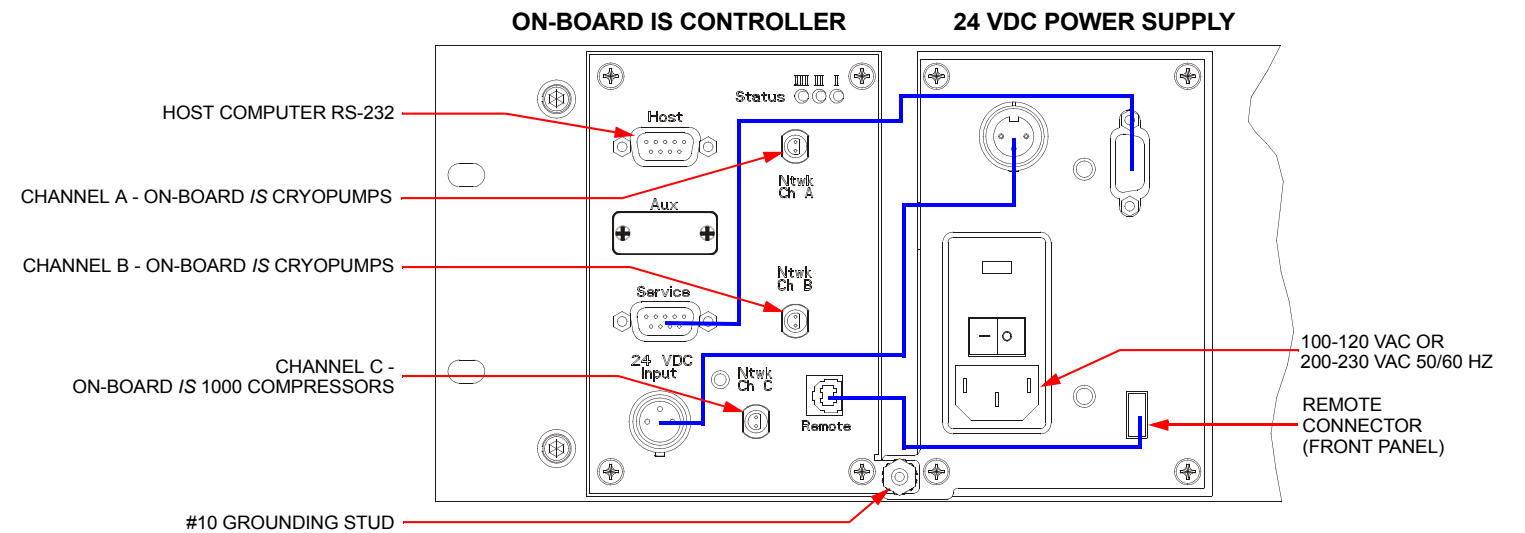
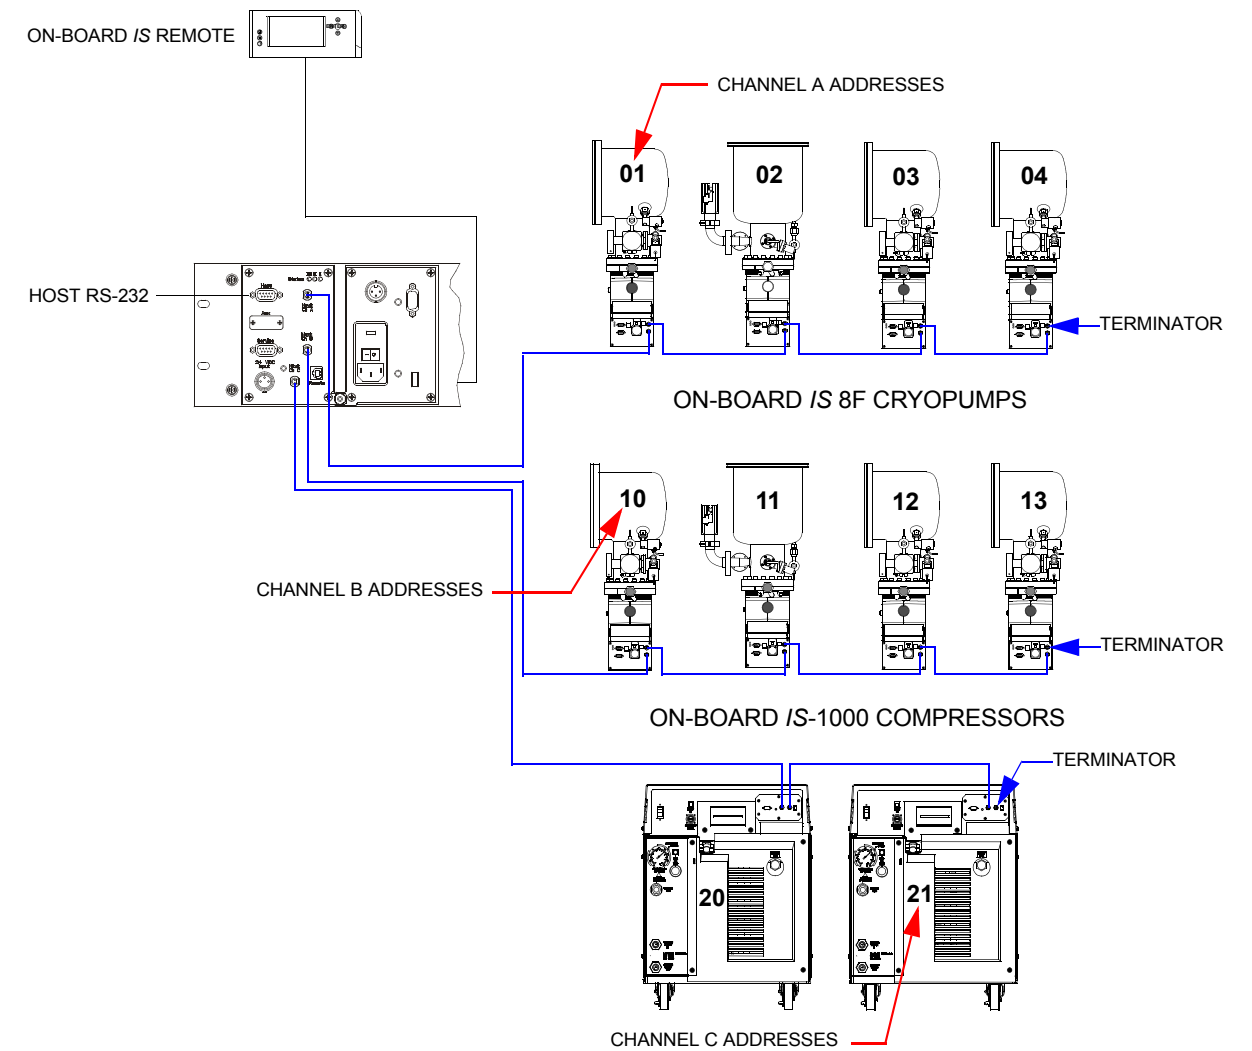

Figure 2: On-Board IS Controller and 24 VDC Power Supply Cable Connections
Figure 3: On-Board IS Cryopump System and Intercomponent Network Connections
2. Use the Remote keypad (part number 8187007K001, see *Figure 2*) to go to the *On-Board IS Controller* screen.
1. Connect the Channel A Network Cables between the On-Board IS Controller and On-Board IS Cryopumps as shown in *Figure 2* and *Figure 3*.
2. Connect the Channel B Network Cables between the On-Board IS Controller and On-Board IS Cryopumps as shown in *Figure 2* and *Figure 3*.
3. Connect the Channel C Network Cables between the On-Board IS Controller and On-Board IS 1000 Compressors as shown in *Figure 2* and *Figure 3*.